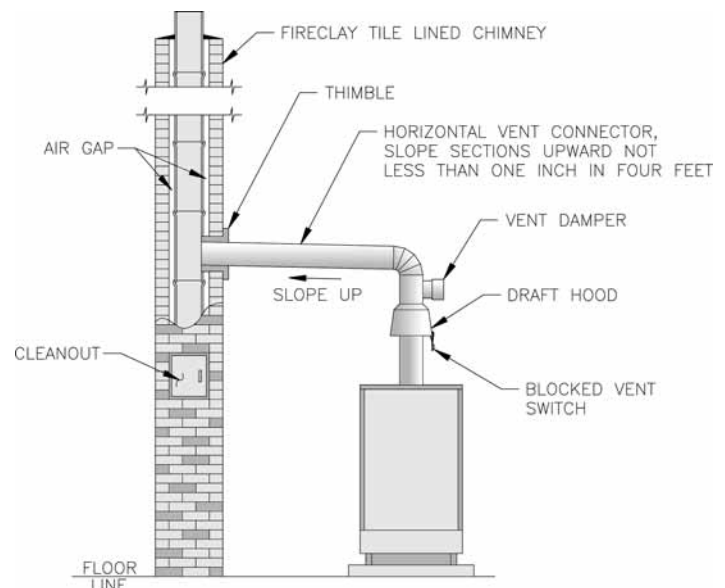

Figure 10: Typical Vent System Installation
F. Install Vent Connector from vent damper to chimney or gas vent. See Figure 10.